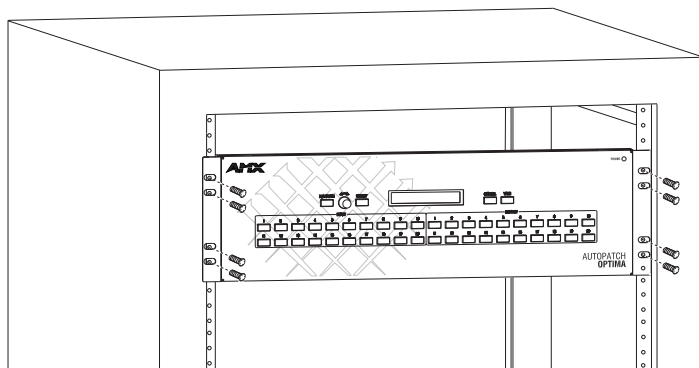

FIG. 12 Place in rack and fasten with mounting screws
2. Attach with front-mounting screws to hold it firmly in place (FIG. 12), repeating for each panel in a multi-panel system.